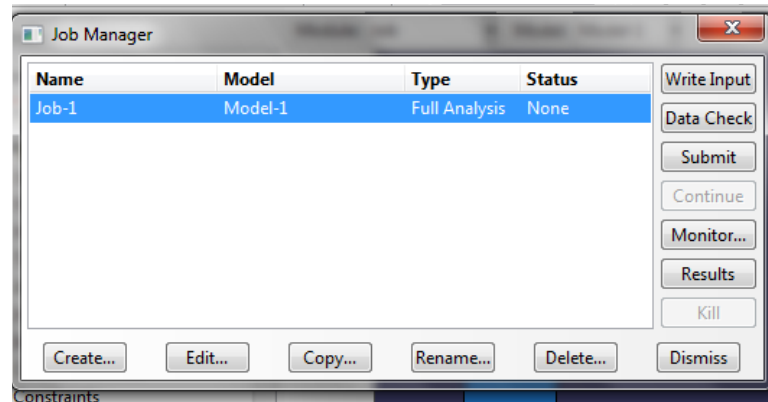

Figure 17
- Select the Job Manager button  bring up the menu in Figure 17